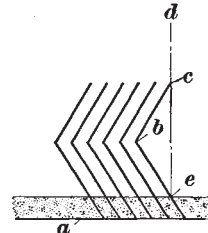

FIG. 1
3. The wire teeth are placed through the foundation by a machine that automatically cuts the wire and bends it in the form of a staple, pierces the holes in the foundation, thrusts the wire through, and then makes the knee, or forward bend. The wire is not passed straight through the foundation but at an angle opposite to that of the forward inclination of the tooth; this angle is very slight and serves to offset the bend at the knee of the tooth. This is shown in Fig. 1, which also shows the forward bend of the wire. The wire passes through the leather foundation *a* at an angle and is bent forwards again at the knee *b* until the point *c* touches the perpendicular *de*, which is drawn from the point where the wire issues from the foundation,
4. Clothing for Workers and Strippers.—Fig. 1 shows the general proportions of clothing suitable for the workers and strippers of a woolen card. It will be noticed that the distance between the knee and the foundation of the clothing is just a trifle shorter than that between the point of the tooth and the knee. This is about the right place for the forward bend of an ordinary working tooth to commence. The nearer the knee is to the point of the tooth, the stronger will be the clothing and the more tenaciously will it hold the fibers of the stock; on the other hand, the nearer the knee is to the base of the tooth or the foundation of the clothing, the more flexible will be the clothing and the more will its action resemble that of a brush.